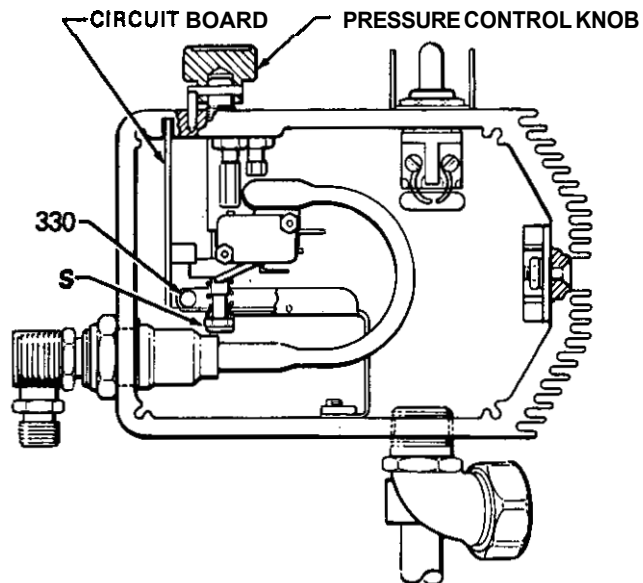

Fig 21
CIRCUIT BOARD REPLACEMENT (See Figs 21 & 22)
2. Turn the pressure control knob all the way counter-clockwise to the minimum setting to release spring tension on the board. **Also** check to be sure only three or four threads of the pressure control knob shaft are exposed below the pressure adjustment nut (S). Back down the nut, if necessary. See Fig 21.